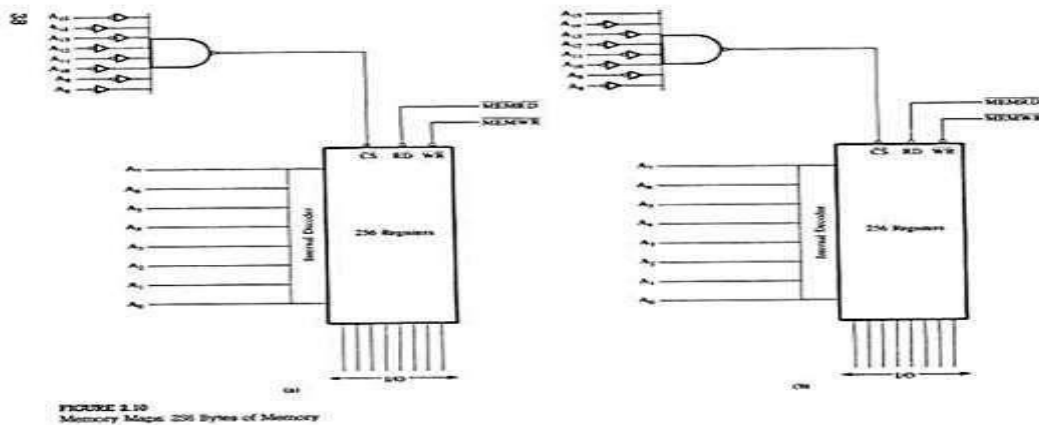

Fig 2:-Memory map: 256 bytes of memory
**Example-1-** Illustrate the memory map of the chip with 256 bytes of memory and hardware of the chip select (CS) line in fig 2.